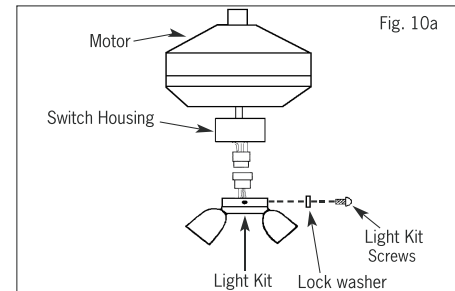
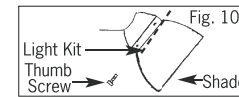
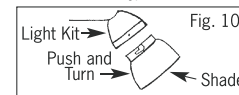
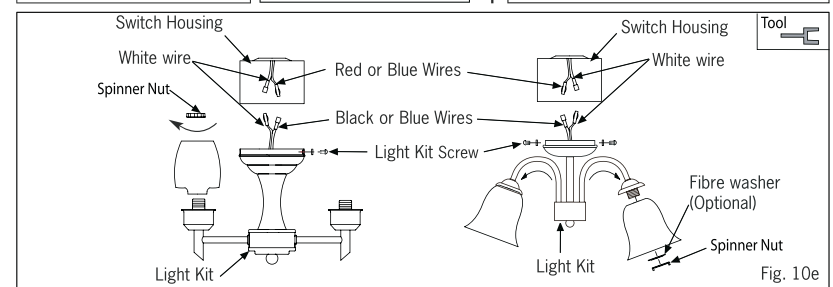

Fig. 10a
Fig. 10b
Fig. 10c
Fig. 10e
- Place shades on light kit and secure with either screws, finger tight, spinner nut or push and turn for pop-off style shades. (See Fig.10a, Fig.10b, Fig.10c,10d, Fig.10e).